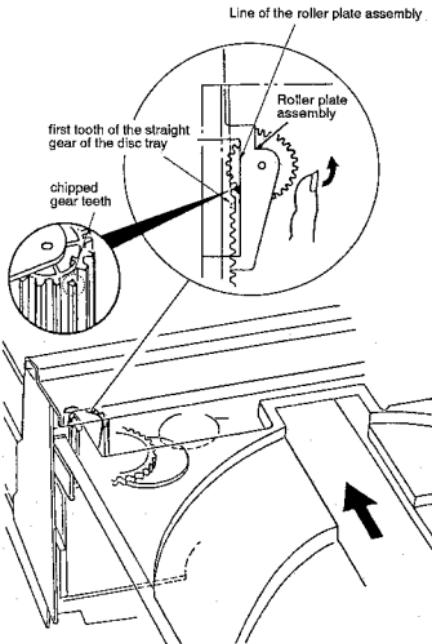

Fig. 17
② The top of one of the gear teeth of the roller plate assembly has been chipped off. Finely adjust the position of this chipped tooth by turning the gear counterclockwise so that the tooth comes halfway on the roller plate line. (Fig.17)